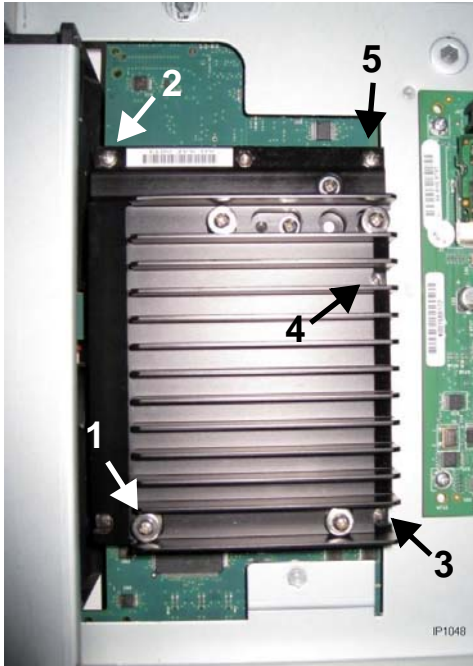

Figure 57: Removing the APC-MXe Retaining Screws
9. Tighten the retaining screws in the following order, referring to Figure 57 for screw numbers: